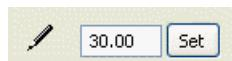

Figure 30 Position Indicator Set Button with Pen
- Use the arrow and drag it to the required setpoint. The arrow top and tip changes from green to yellow as the arrow is dragged and a pen appears indicating that the value is not set (Figure 30).
- Enter a value directly into the text field and Figure 30 appears.